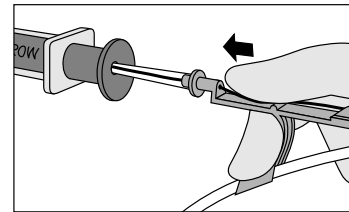

Fig. 6
- Advance spring-wire guide into the syringe approximately 10 cm until it passes through the syringe valves (refer to Fig. 6).